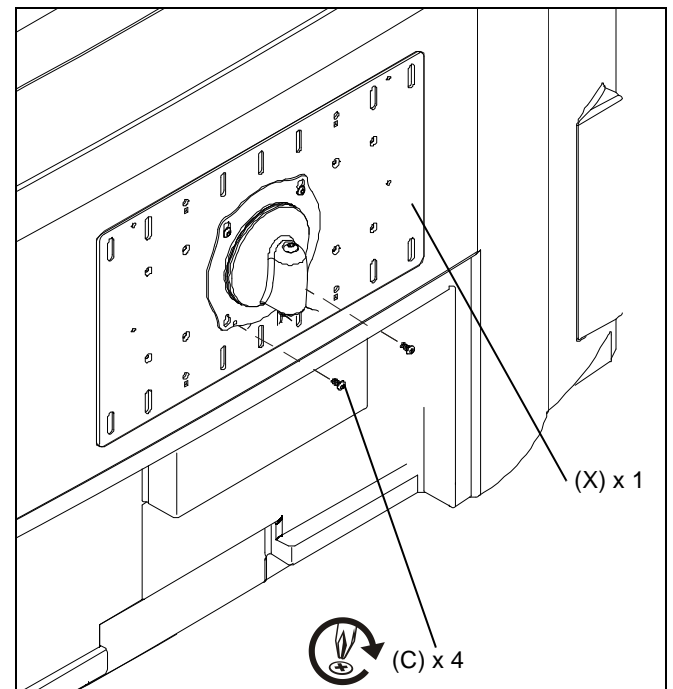

Figure 11
3. Hold display so that display back is against Centris cup and install two Phillips pan head machine screws (C) through lower mounting holes in Centris cup and into lower mounting holes in interface bracket (X). (See Figure 11)